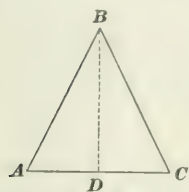
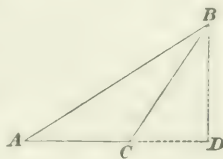

FIG. 30.
FIG. 31.
60. The altitude of any triangle is a line, as BD , drawn from the vertex B of the angle opposite the base AC , perpendicular to the base, as in Fig. 30, or to the base extended, as in Fig. 31.